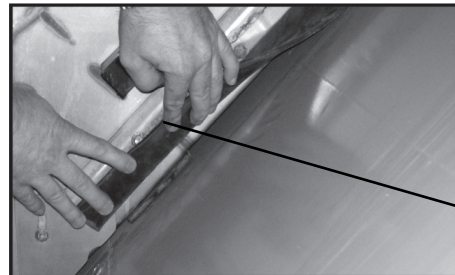

Figure 6
5. Figure 6 - Inside main unit, locate front pads by lifting rubber sealers on front endgate.